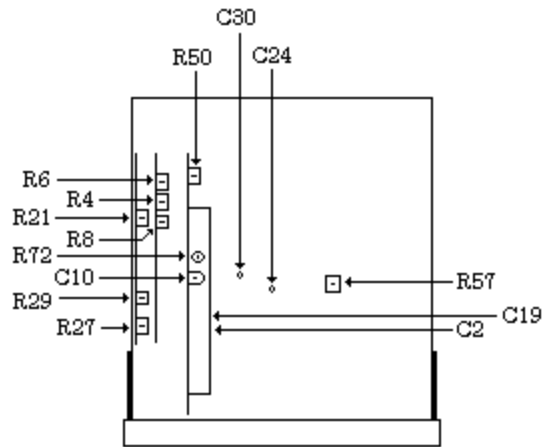

Figure 1. test instrument – top view.
- (1) Set calibrator for a 1 MΩ output.
- (2) Press TI **RANGE 200mV** pushbutton.
- (3) Adjust C24 (fig. 1) until TI indicates between -00.01 and +00.01.
- (4) Set calibrator for a 190 mV dc output. Record TI indication.
- (5) Set calibrator for a -190 mV dc output. Adjust C30 (fig. 1) until TI indication is within ± 1 digit of indication recorded in (4) above (R).
- (6) Repeat (1) through (5) above until no further adjustments are required.
- (7) Press **RANGE 2** pushbutton.
- (8) Set calibrator for a 1.9 V dc output. Adjust R57 (fig. 1) until TI indicates $+1.9000 \pm 1$ digit (R).
- (9) Set calibrator for a -1.9 V dc output. Adjust R57 (fig. 1) until TI indicates -1.9000 ± 1 digit.
- (10) Repeat (8) and (9) above until no further adjustments are required.
- (11) Press **RANGE 20** pushbutton.
- (12) Set calibrator for a 19 V dc output. Adjust R4 (fig. 1) until TI indicates $+19.000 \pm 1$ digit (R).
- (13) Set calibrator for a -19 V dc output. Adjust R4 (fig. 1) until TI indicates -19.000 ± 1 digit.
- (14) Repeat (12) and (13) above until no further adjustments are required.
- (15) Press **RANGE 200** pushbutton.
- (16) Set calibrator for a 190 V dc output. Adjust R6 (fig. 1) until TI indicates $+190.00 \pm 1$ digit (R).
- (17) Press **RANGE 1200V** pushbutton.
- (18) Set calibrator for a 1000 V dc output. Adjust R8 (fig. 1) until TI indicates $+1000.0 \pm 1$ digit (R).
- (1) Press TI **RANGE 2000kW** pushbutton.
- (2) Set calibrator **EX SNS** off, **2 wire Comp** off and output to 1 MΩ. Adjust R21 (fig. 1) until TI indication is within ±1 digit of calibrator output display indication rounded to TI digits of resolution (R).
- (3) Press TI **RANGE 2** pushbutton.
- (4) Set calibrator for a 1 kΩ output, **EX SNS** on and **2 wire Comp** on. Adjust R27 (fig. 1) until TI indication is within ±1 digit of calibrator output display indication rounded to TI digits of resolution (R).
- (5) Press TI **RANGE 20MW** pushbutton.
- (6) Set calibrator **EX SNS** off, **2 wire Comp** off and output to 10 MΩ. Adjust R29 (fig. 1) until TI indication is within ±1 digit of calibrator output display indication rounded to TI digits of resolution (R).
- (1) Set calibrator to **STANDBY**.
- (2) Press **RANGE 1200V** pushbutton.
- (3) Simultaneously press **FUNCTION AC MA** and **DCV** pushbuttons. Adjust R72 (fig. 1) until TI indicates between -20 and -30.
- (4) Press **FUNCTION ACV** and **RANGE 2** pushbuttons.
- (5) Set calibrator for a 1.9 V, 500 Hz output. Adjust R50 (fig. 1) until TI indicates 1.9000 ±5 digits (R).
- (6) Press **RANGE 200** pushbutton.